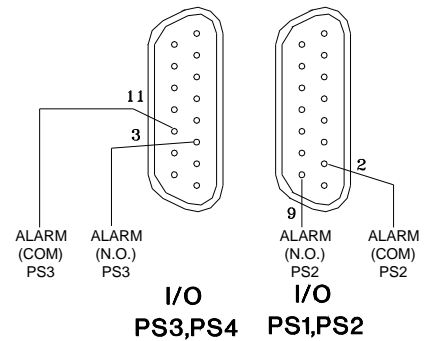

FIGURE 4. SLOTS 2 AND 3 CONFIGURED FOR PARALLEL OPERATION, WITH CLOSE ON FAIL ALARM CIRCUIT
Figure 4 shows HSF's in slots 2 and 3 connected in parallel (master/slave, master established automatically by voltage) with forced current sharing and a close-on-fail alarm circuit. Both HSF modules are configured for output voltage to be adjusted from the front panel trimpot (factory default setting). See HSF operator manual for other output voltage adjustment options.
8. Set position 5, to ON. This connects the current share bus (CB) for slots 3 and 2.
9. Set positions 6 and 7 to ON. Position 6 connects the normally open ALARM (N.O.) lines and position 7 connects the ALARM (COM) (common) for slots 3 and 2, implementing a close-on-fail alarm circuit (see equivalent schematic shown in Figure 4. If either PS2 or PS3 fails, a contact closure provides continuity across pins 7 and 14 of both I/O 4 and I/O 3.
ALARMS. For independent configurations, Close on Fail contact closure is across I/O connector pins for ALARM N.O. and ALARM COM (see Figure 4). Open on Fail circuits are across I/O connector pins for ALARM N.C. and ALARM COM. Figure 4 shows a parallel close-on-fail circuit for slots 2 and 3 using the DIP switches to make the connections. See Operator Manual for other options.